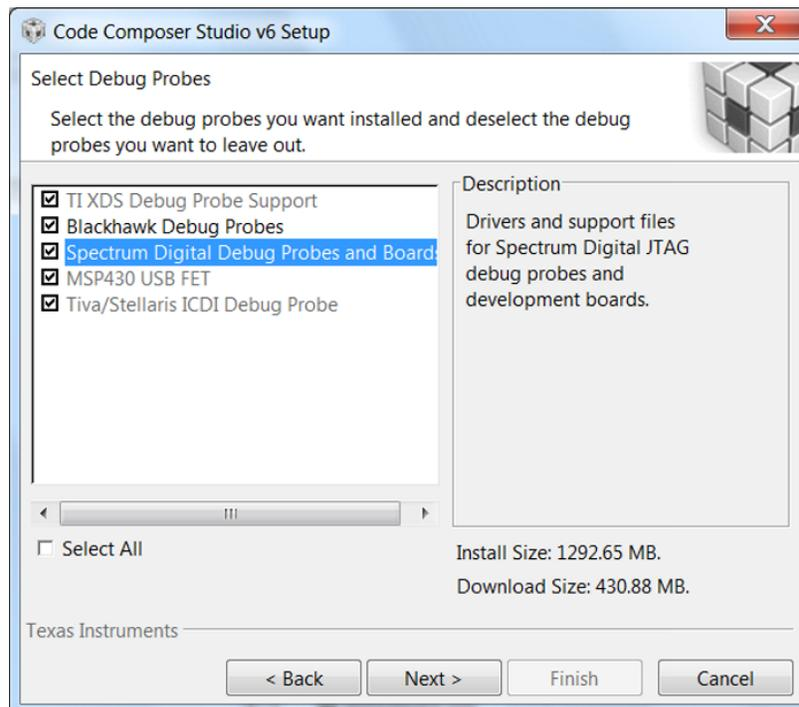

Figure 10. Components Available for Installation
Step 6. Review the installation size and click the *Finish* button to begin installation of the CCS software (see Figure 10).